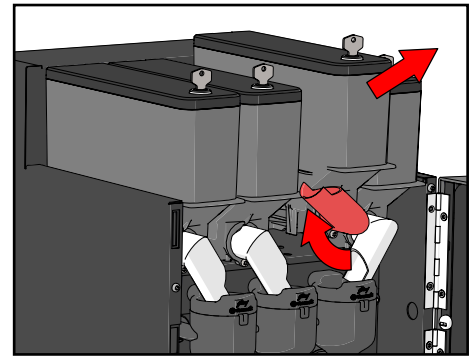

Figure 7.
2. Remove the instant canisters from the machine with the spouts facing upwards (see Figure 7).